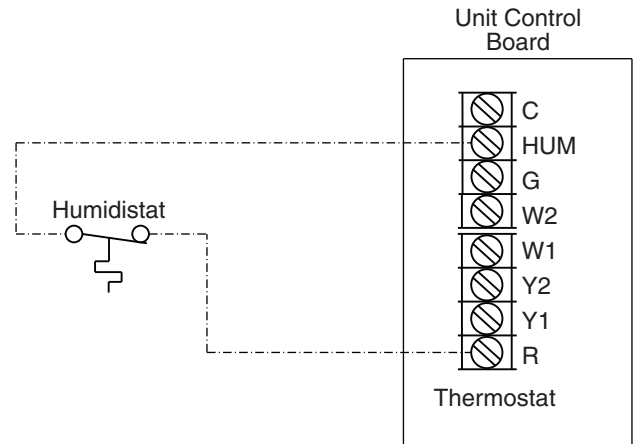

Fig. 43 — Humidistat Connections to UCB
5. Connect one of the leads from the 2-conductor cable to the HUM terminal on the UCB (Unit Control Board). Connect the other lead to the R terminal on the UCB. See Fig. 43.